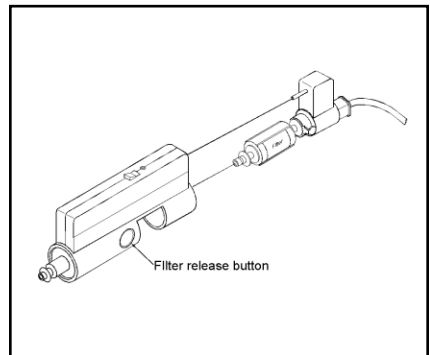

Fig. 3
**6.2** Connect the hose and filter to the console. First, push the Filter Release Button (Figure 3) in all the way. Then, push the fitting containing the filter all the way into the opening in the console until it latches with a click. The fitting fits only in the correct orientation. The small plastic fitting on the end of the filter must align with the metal guide coupling in the console. You may have to wiggle the filter slightly while inserting it. See Figure 3.